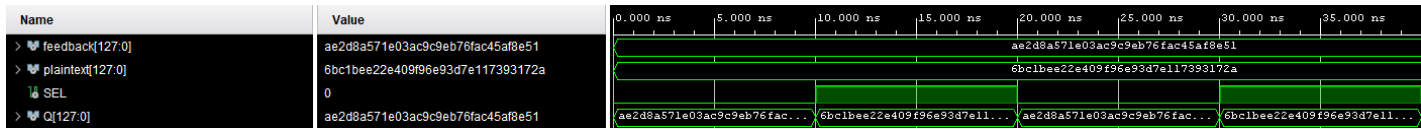

Figure 9: Multiplexer Test Bench
The Multiplexer module takes two 128-bit sequences as input and outputs one 128-bit sequence based on the select signal. The test bench was conducted using the feedback and plain text inputs, with the SEL signal controlling the selection between them. When SEL is high, the feedback input is passed to the output (Q), and when SEL is low, the plain text input is selected. The expected result was achieved, with the output reflecting the correct input based on the state of SEL at each moment. The waveforms obtained by the test-bench of this module can be seen in figure 9.